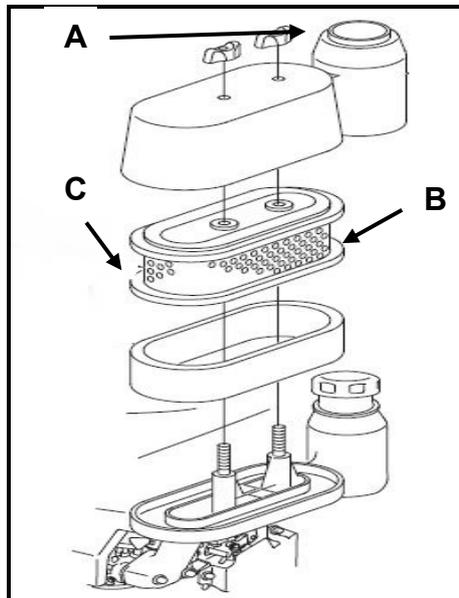

Figure 9
- Dismant the air filter by the two wing nuts (A Figure 9). blow the cartridge "B" with low air pressure from the inside to the outside, opposite to the normal air flow. Change the cartridge if it is too dusty or after five cleaning.